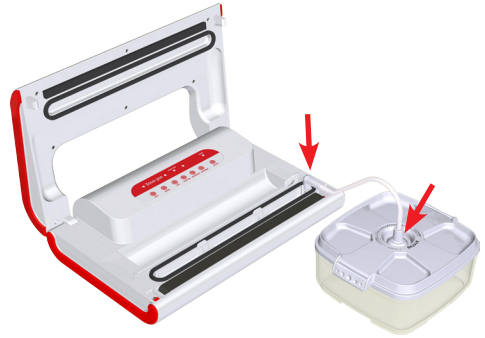

Figure 8: Marinating process.
- Connect it to the container for marinating (see Figure 8).